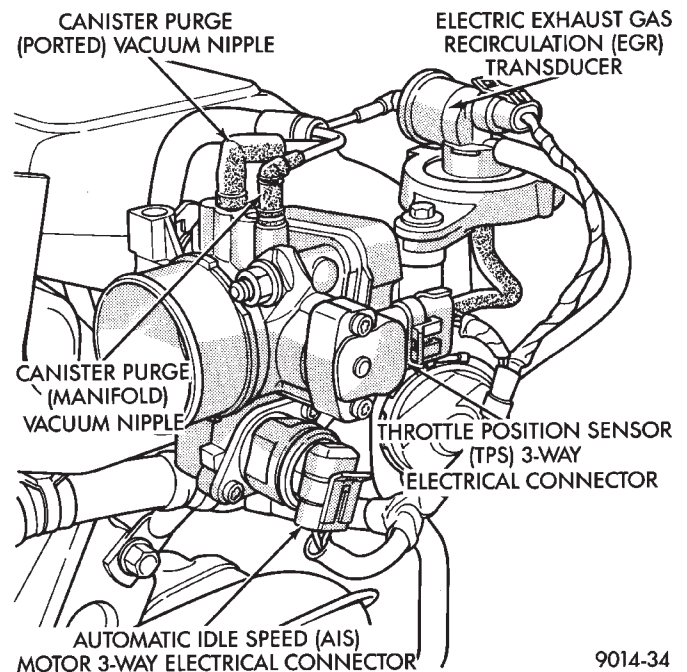

Fig. 4 Electrical and Vacuum Connection to Throttle Body
(5) Remove automatic idle speed (AIS) motor and throttle position sensor (TPS) wiring connectors from throttle body (Fig. 4).
(6) Remove vacuum hose harness from throttle body (Fig. 4).